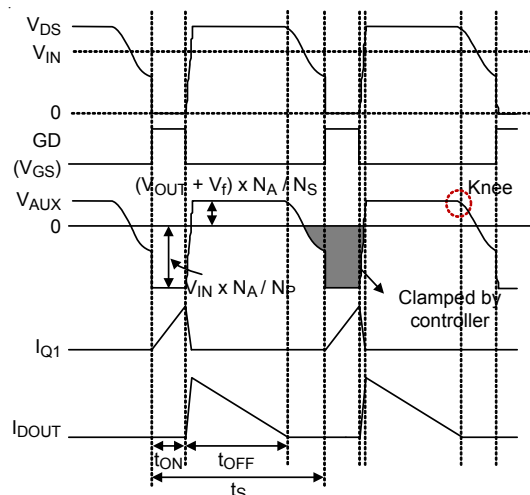

Figure 3. Key Waveforms of a Flyback Converter
The RT7302 needs no shunt regulator and opto-coupler at the secondary side to achieve the output current regulation. Figure 3 shows several key waveforms of a conventional flyback converter in Quasi-Resonant (QR) mode, in which VAUX is the voltage on the auxiliary winding of the transformer, tON is the conducting time of Q1, tOFF is the conducting time of DOUT, ts is a single switching period, NP is the turns number of primary winding and NS is the turns number of secondary winding. When the secondary side current IDOUT drops to zero, a knee point on VAUX can be detected and tOFF can be determined. The average output current (IOUT(t)) can be derived by :